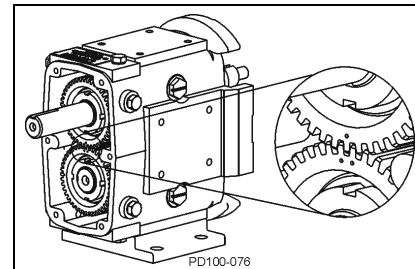

Figure 58 - Timing Gear Marks
3. Slide spur gear onto short shaft. Straddle single punch mark of spur drive gear with two punch marks on short shaft gear (Figure 58).